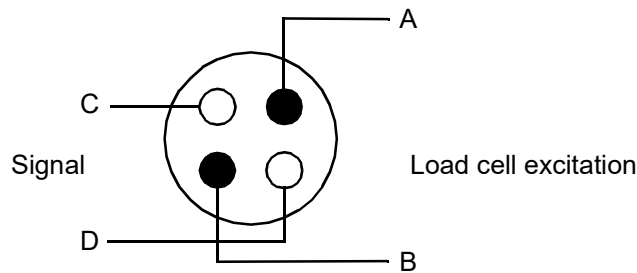

Figure 2-2. Core Arrangement in Load Cell Cable
- The cable from the load cell **must be a robust four core cable**, see Figure 2-2. Diagonal pairs must be used for the signal circuits and excitation circuit.